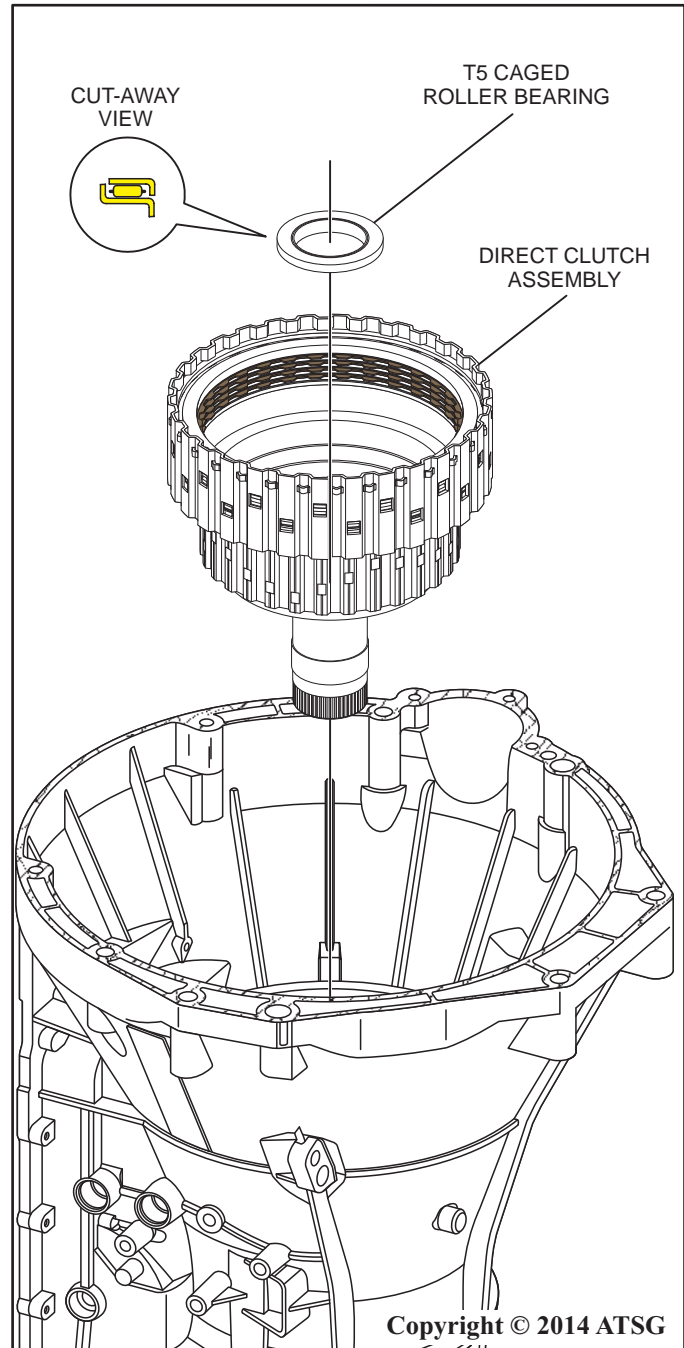

Figure 141
26. Install the direct clutch assembly into the transmission as shown in Figure 141.
27. Install the T5 caged roller bearing as shown in Figure 141